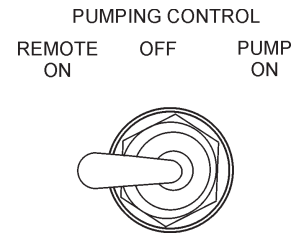

Figure 25. Pumping Control Switch (Remote)
- On the control box, place the pumping control switch in the **REMOTE ON** position (Figure 25)